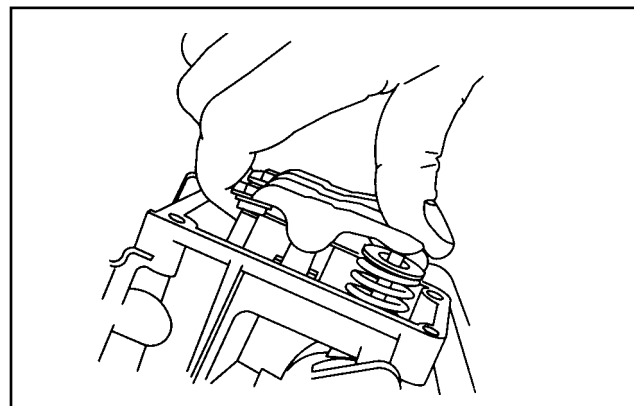

**Fig. 17 - Install Governor Lever**
4. Reassemble governor lever to governor shaft, Fig. 17. DO NOT tighten nut at this time.